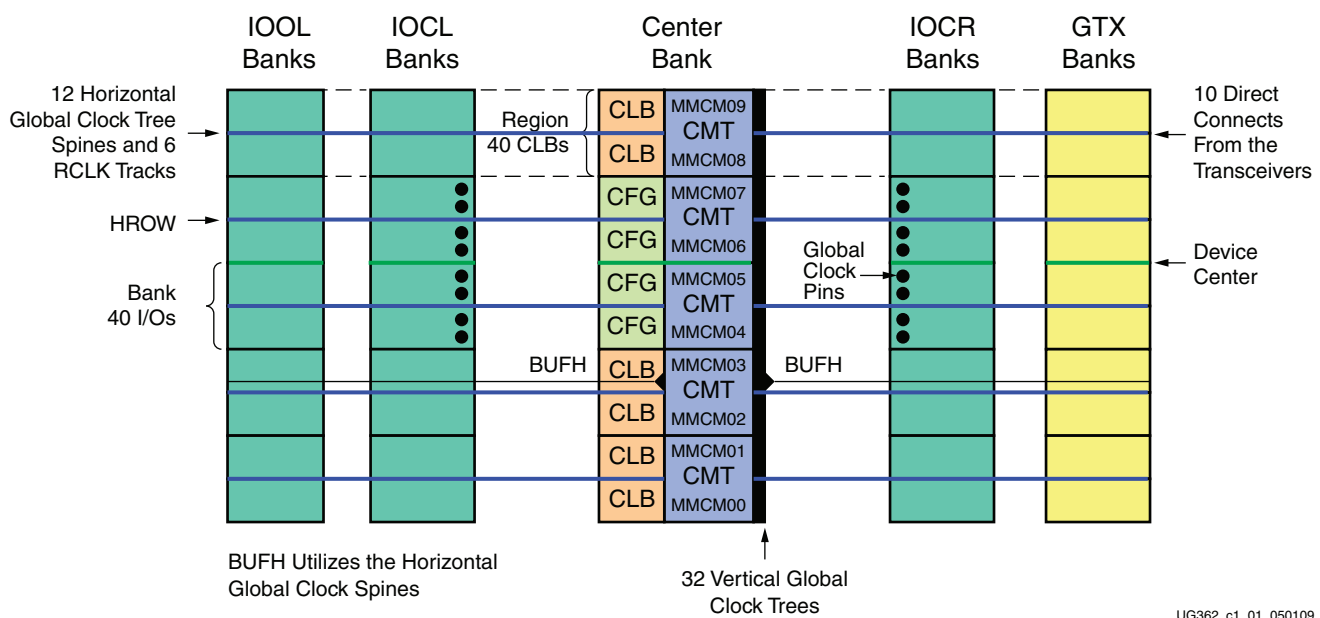
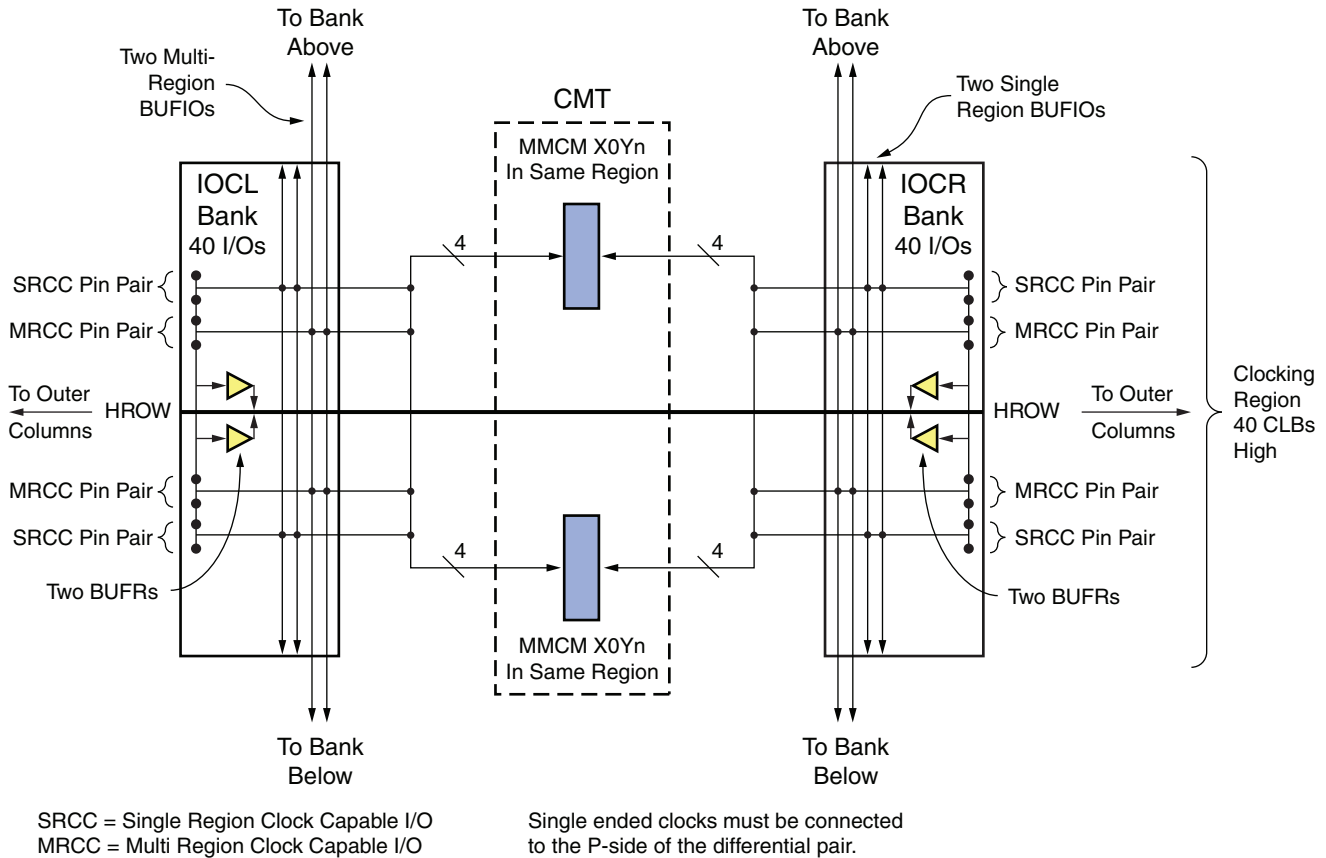

Figure 1-1: Example of Block Level Banking and Global Clocking Architecture
Figure 1-2: Inner I/O Column Single Region Clocking Structure
Every Virtex-6 FPGA has two I/O columns to the left and right of the center column labeled I/O center left (IOCL) and I/O center right (IOCR) with CLBs in between. Every LX, LXT, and SXT device has an I/O outer column at the left edge of the device (IOOL) and some devices have an outer edge I/O column to the right. Other devices have a Gigabit Transceiver (GT) column to the right instead. There is a horizontal clock row (HROW) running in the center of each region/bank. The HROW contains the vertical global clock spines of the global clock buffers (BUFG) and the BUFHs if the vertical global clock spines are used as such. The inner I/O columns contain eight global clock pin pairs (GCs) spread over four banks for maximum flexibility in I/O standards. All I/O columns contain four clock-capable pin pairs (CCs) which can connect to BUFIO and BUFR. Two of the four CCs per bank can connect to BUFIOs spanning the adjacent regions. Additionally, the BUFRs and CC pins in the center columns can directly drive MMCMs in the same region and indirectly BUFGs through the vertical global clock spines that drive the BUFGs. Figure 1-1 shows an example of the high-level banking and global-clocking architecture. Figure 1-2 shows a more detailed view of the clocking in a single region with two inner column I/O banks.